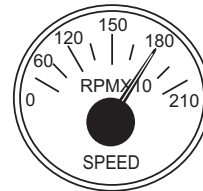

Figure 54. Engine Tachometer
11. The **tachometer** (Figure 54) will indicate the speed of the engine in RPM. Under normal operating conditions this speed is approximately 1,800 rpm.